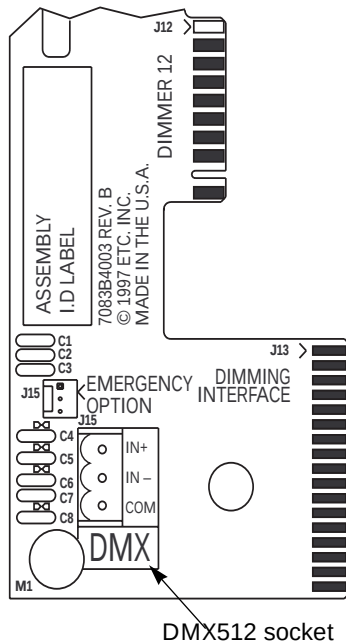

Figure 36: Signal distribution board
9. Detach DMX connector from socket located on the signal distribution board, located on the right side of the rack. See Figure 36.